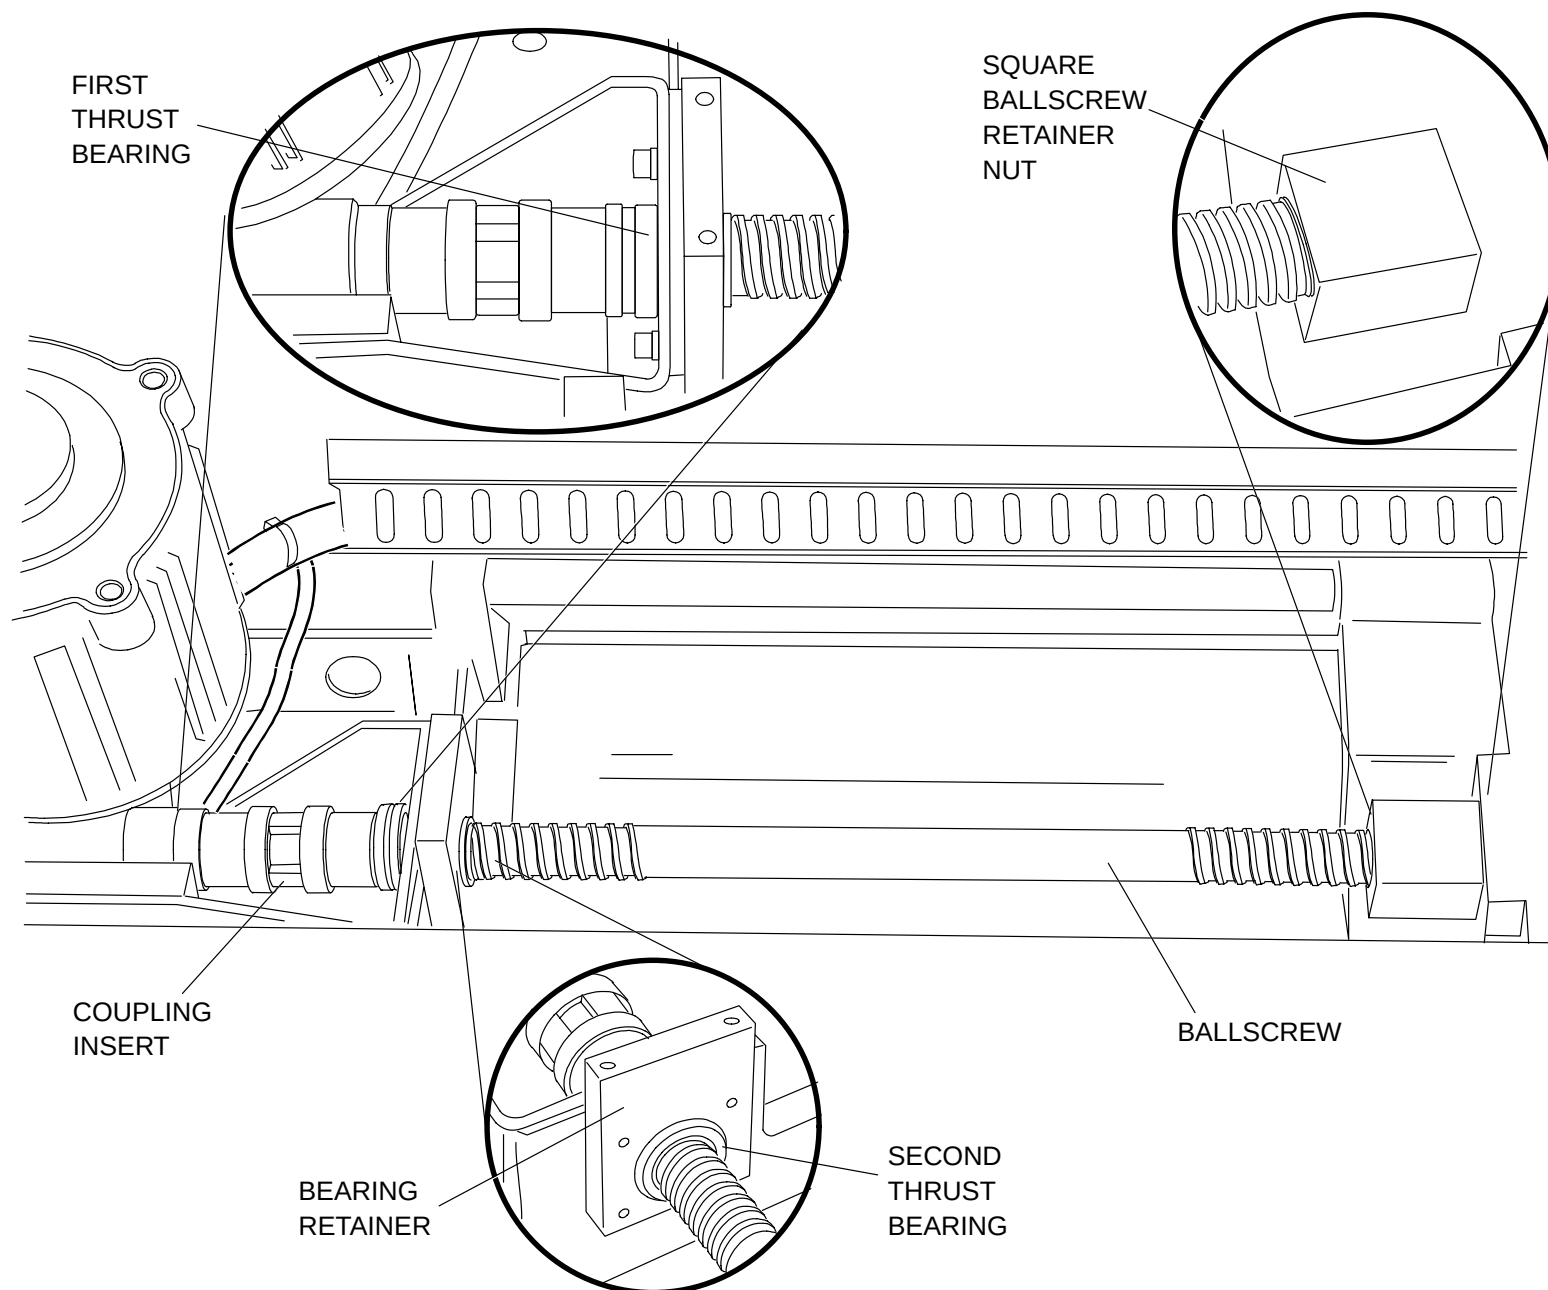

FIGURE 223 Ballscrew, Couplings, Thrust Bearings and Retainer Nut
15. Remove first thrust bearing from end of ballscrew (3 PIECES). Refer to Figure 223.
From this point forward, refer to Figure 223 for proper location of items.